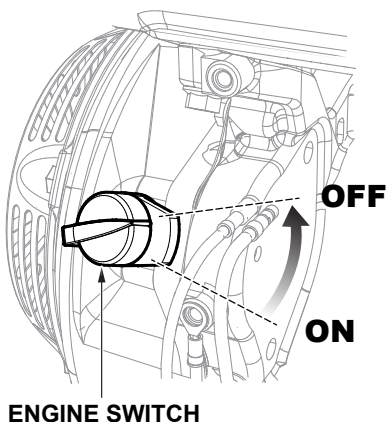

Figure 47. Engine ON/OFF Switch (OFF)
2. Release the handle and place the engine ON/OFF switch in the **OFF** position (Figure 47).